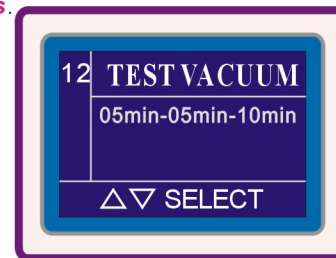

Fig.6.4-27
(1) Continued Press button 3 second, LCD appear “PROGRAM” then press “UP” button, appear program list, then press “UP” or “DOWN” button, have found “TEST VACUUM” program. Show Fig.6.4-27.